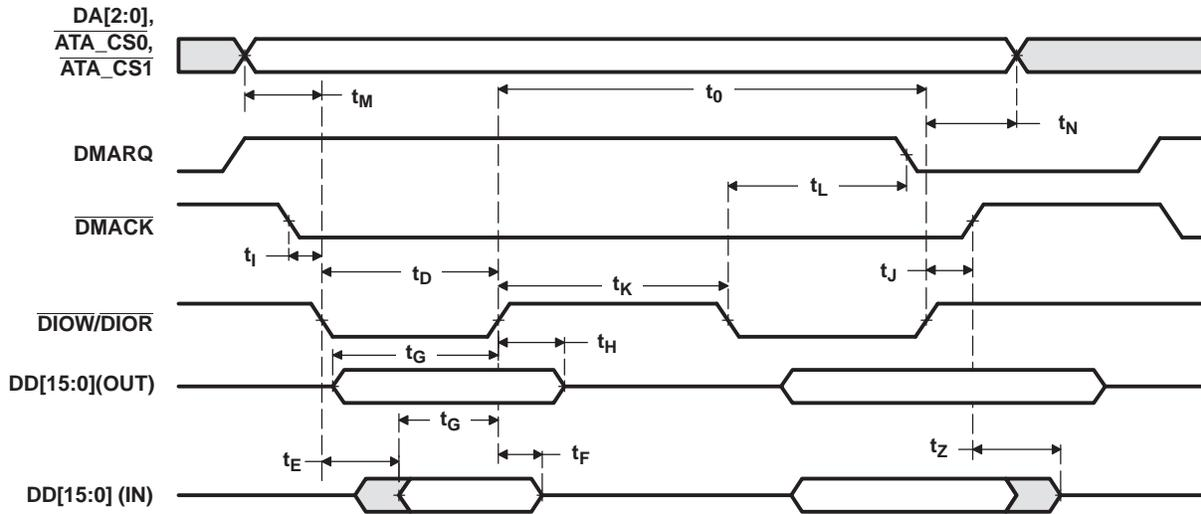

Figure 6-27. ATA/CF Multiword DMA Timing
Table 6-40. Timings for ATA/CF Module — Multiword DMA AC Timing^{(1) (2)} (see Figure 6-27)